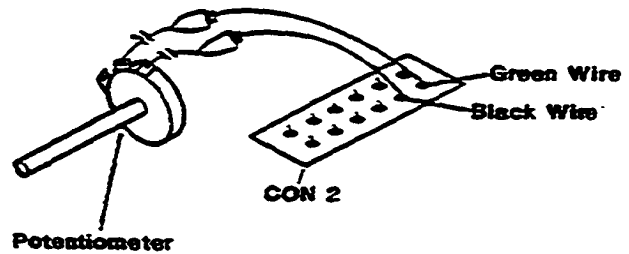

Figure 5-9. Low Water Probe Test Connection
4. With probe disconnected, connect the potentiometer between the common (green) wire and the black wire that leads back to CON 2 (see Figure 5-9).